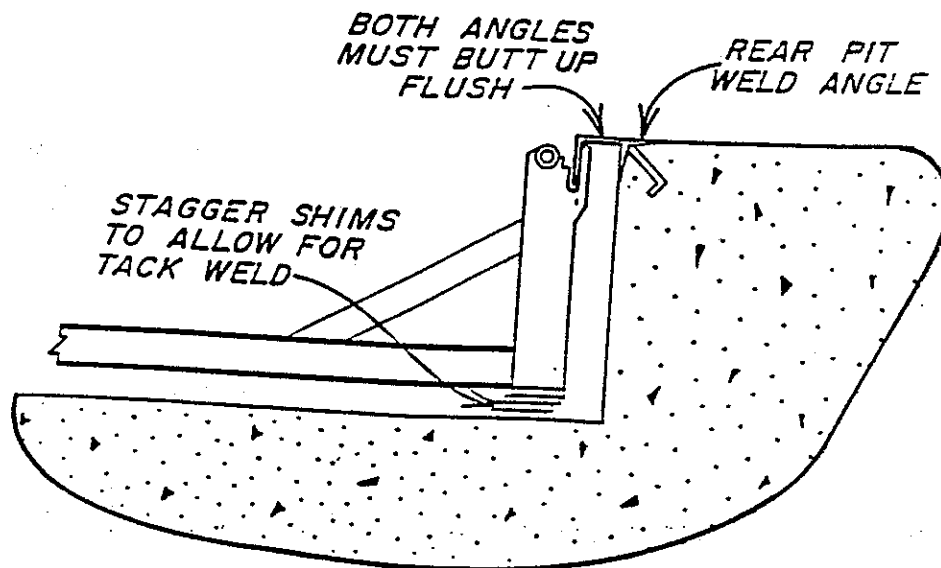

figure 4
6. Once a flush fit is obtained all around the leveler, tack weld the two rear angles together. Refer to figure 4.